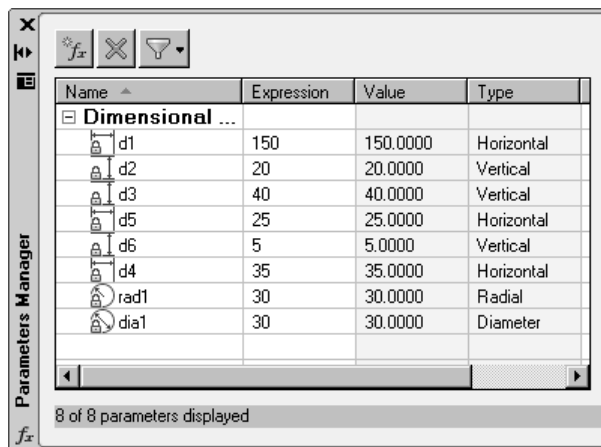

Figure 11-35 The Parameters Manager palette after applying all dimensions
10. Choose the **Parameters Manager** button from the **Manage** panel of the **Ribbon**; the **Parameters Manager** palette will be displayed with the names of dimensional constraints and their values, as shown in Figure 11-35.